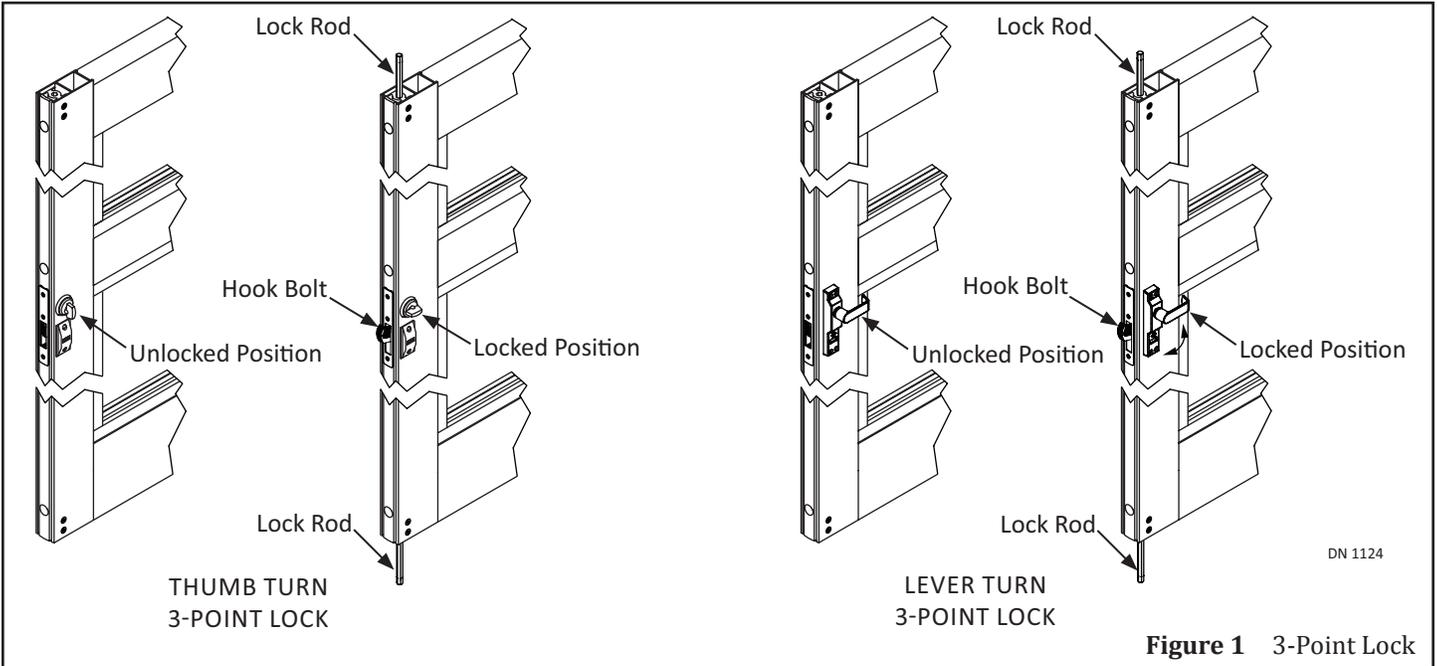

Figure 1 3-Point Lock
The Hurricane Door Slide door is installed with a 3-Point Lock that operates with a Thumb Turn, or Lever Turn. The 3-Point Lock is used to simultaneously lock the Slide door with (1) Hook Bolt and (2) Lock Rods. Please see Figure 1.